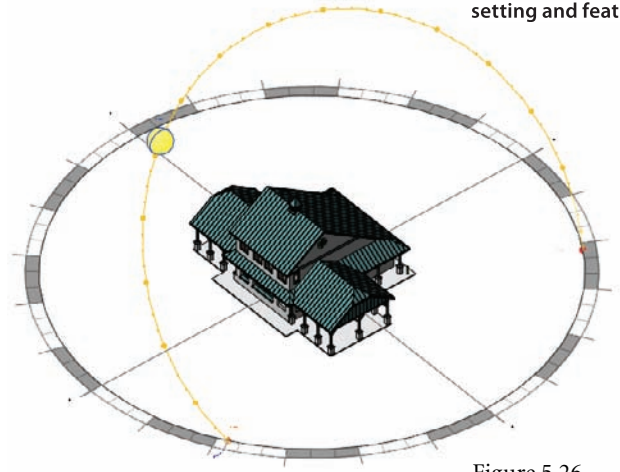
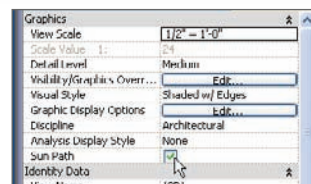
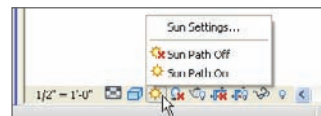

Figure 5.25
Figure 5.26
Figure 5.27
**Sun Path** This is a new feature that will display a representation of the sun and its path around and over your project (see Figure 5.25). It provides a tactile and interesting (more useful and fun too) way to manipulate the sun positioning information for the project instead of using the established Location and Position dialog boxes. You can turn this on by selecting the Sun Path setting (see Figure 5.26) or by using the View Control Bar button (refer to Figure 5.27).